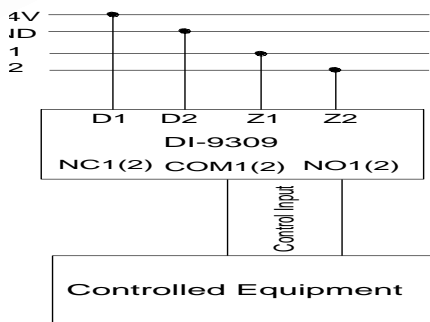

Fig.4
2) Fig.4 shows the output connection with dry contact output.